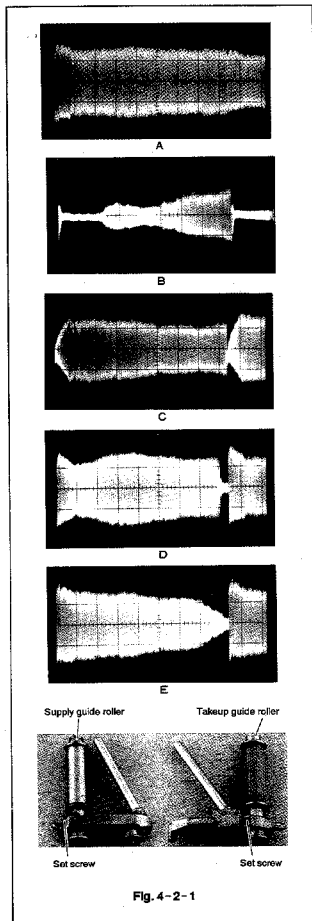

Fig. 4-2-1
- ① Play back the tape recorded using the recorder being tested.
- ② Visually check the tape at the supply and takeup guide rollers. There should be no gap between the lower face of the upper flange of the guide roller and the upper edge of the tape; and no wrinkle or crease.
- ③ Play an alignment tape (staircase waveform : PM6KE2CS).
- ④ Connect an oscilloscope to the TP2A. Trigger on the signal on TP5A.
- ⑤ Connect TP5R and TP5S to ground to force the digital tracking to enter preset mode.
- ⑥ Make sure that the both positive and negative peaks of the waveform are flat as shown in A of Fig. 4-2-1.
- ⑦ If the leading portion of FM waveform (supply side of the drum) is not flat (B, C of Fig. 4-2-1), adjust the height of the supply guide roller according to para. 5-2-2. If the period between adjacent FM waveforms is not flat (as waveforms D and E, drum takeup side), adjust the height of the takeup guide roller according to para. 5-2-3.